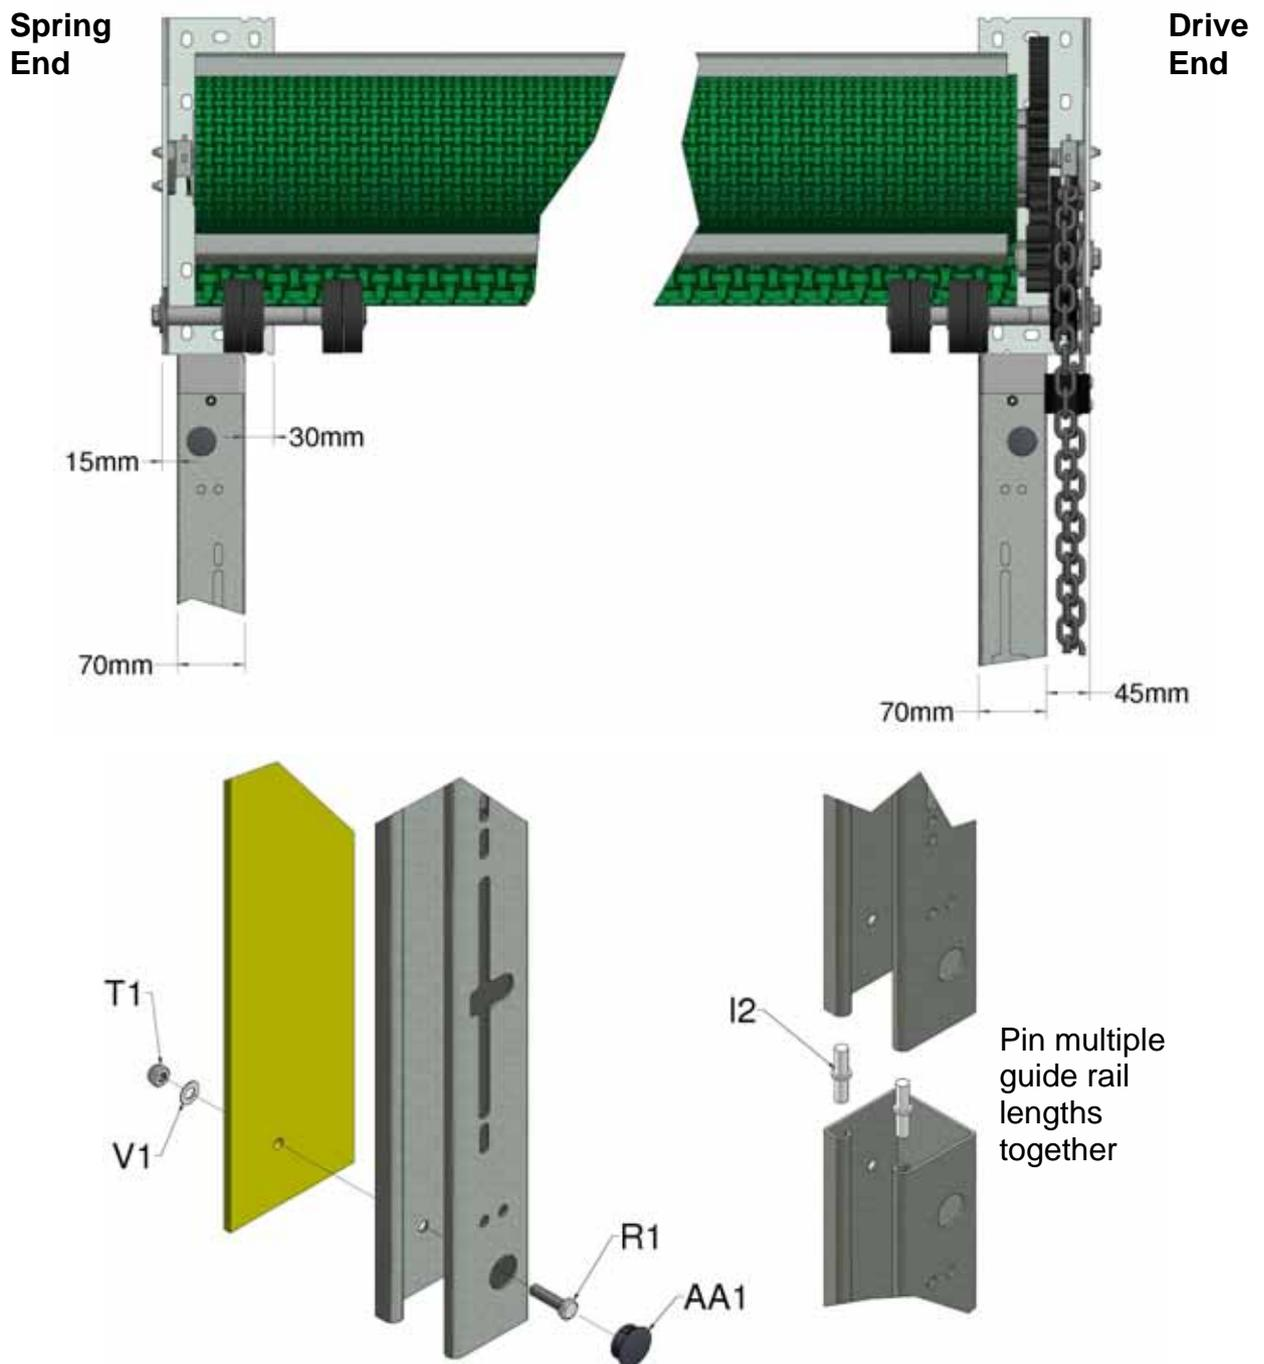

Figure 11, Bolting of Guide Rail and Joining of Guide Rail to Wall
- Fit the guide rails to the building as shown in Figure 11 with M8 fixings using the pre-punched holes at 100cm centres. If the rails are supplied in part lengths, align each section with the joining pins (I2) supplied (Figure 11).